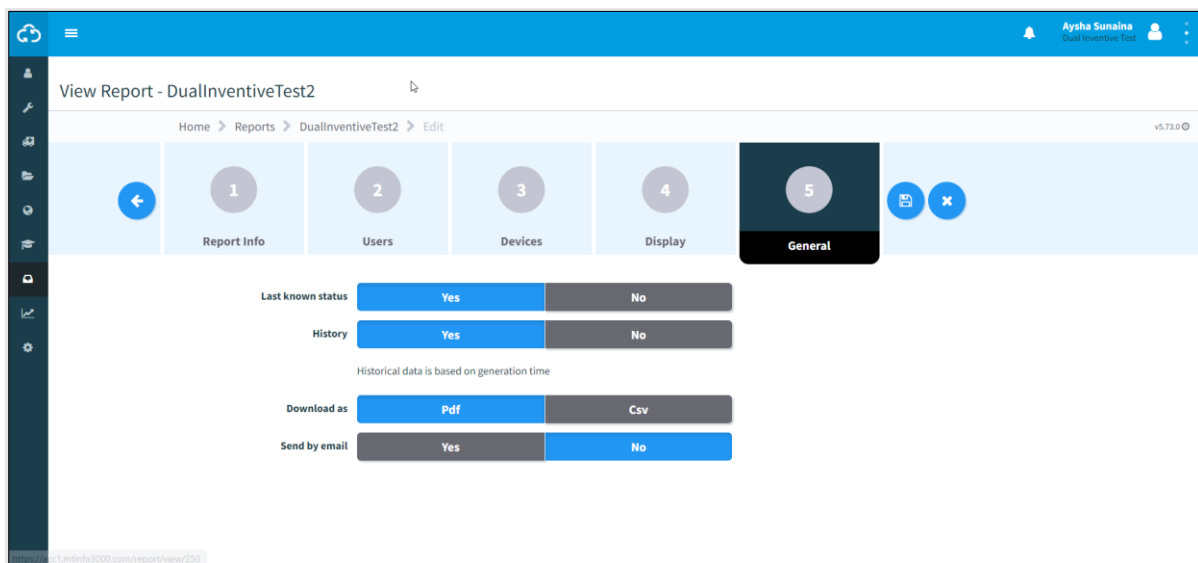

Figure 88 View report - General
- Step 2 - Display (Figure 88);